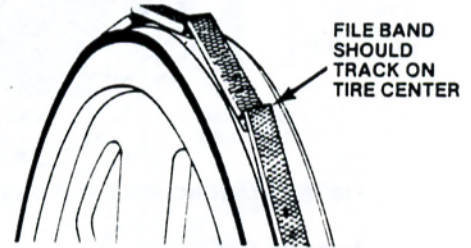

FIG. 49. TRACKING THE FILE BAND.
- (1) Adjust upper wheel tilt angle (if necessary) so band tracks on tire center. Then: (a) Check to see that band is in alignment and passing freely over file guide supports; (b) Tension band same as for a 1/8-inch (3.2 mm) wide carbon saw band. See Fig. 49.